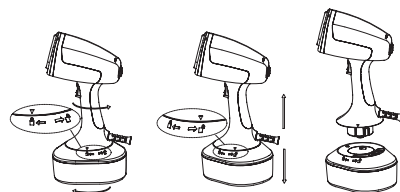

Figure 1
2. Hold the water tank with one hand while turning the steamer handle counterclockwise with other hand, until the arrow on the handle reaches the unlock symbol () on the water tank. Lift the handle off the water tank. Set the Steamer aside (Figure 1).